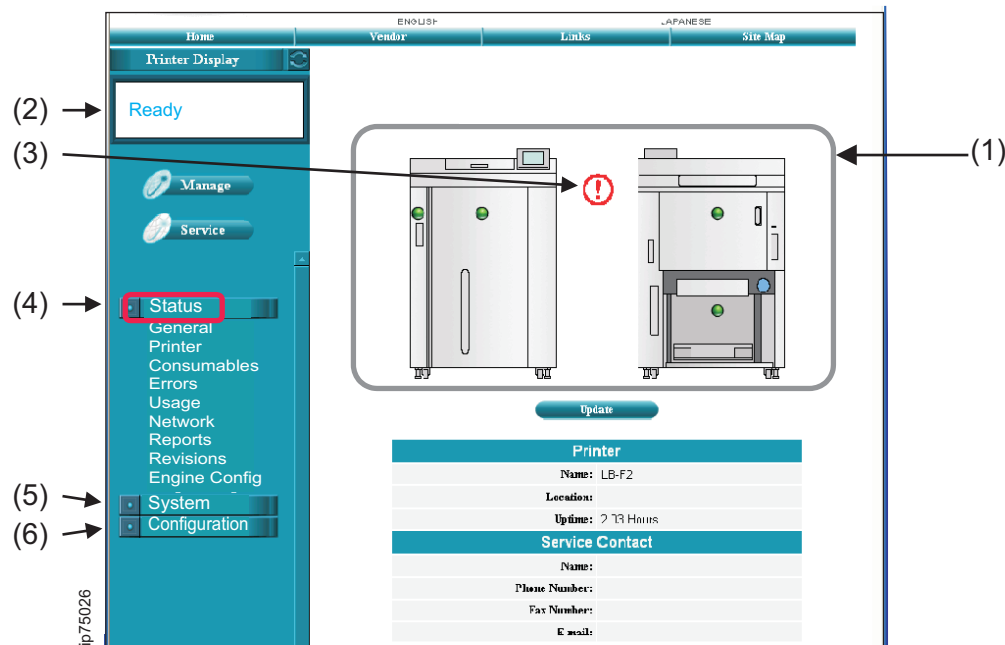

Figure 4. Web interface - General Status
- (1) -- the printer icon shows status for printer components. Green indicates normal operations and red indicates an error. To update status, click **Update**.
- (2) -- the printer display shows the same message displayed on the OCP.
- (3) -- the alert symbol indicates a warning or error that applies to a supply such as toner or developer mix.
- (4) -- select an item from the Status Menu to display detailed status about the printer. Figure 4 shows general status information. Other options display information about paper settings, supplies, errors, printer usage, network settings, and more.
- (5), (6) -- select items from the System Menu or Configuration Menu to manage and configure the printer. See "Using System Pages" on page 20 and "Configuration-Event" on page 22.